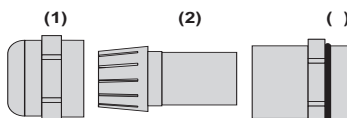
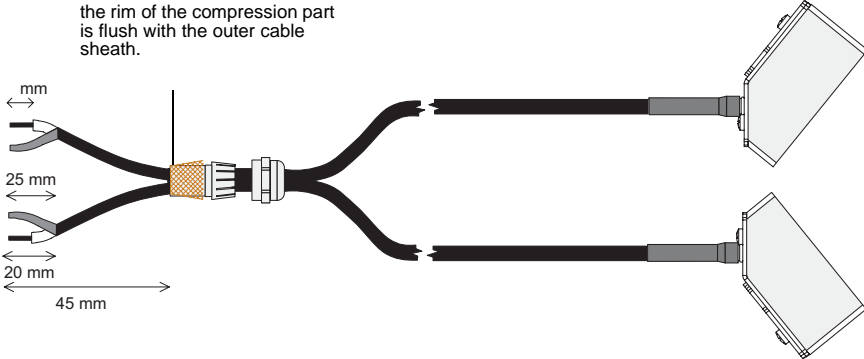

Fig. 5.3: Cable gland: cap nut (1), compression part (2), basic part (3)
Fig. 5.4: Connection of the transducers to the flowmeter
- Prepare the connection cable as shown in Fig. 5.4.
- Open the cable gland (see Fig. 5.3). The compression part (2) remains in the cap nut (1).
- Press the cap nut (1) with the compression part (2) on the cable until the thin rim of the compression part is flush with the outer cable sheath (see Fig. 5.4 and Fig. 5.3).
- Screw the gasket ring side of the basic part (3 in Fig. 5.3) in the housing.
- Push the cable through the basic part (3) in the housing.
- Fix the cable gland by screwing the cap nut (1) on the basic part (3).